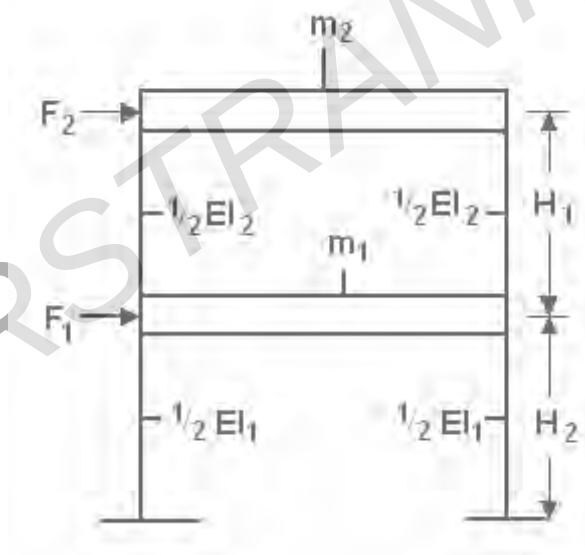

Figure 6
6. Figure below shows an equivalent model for a two storey building. The system consists of two rigid masses m_1 and m_2 supported on elastic columns. Columns as massless beams supported at both the ends. Elastic properties of the columns are as shown in the figure 6, Assume that the building only goes under horizontal motion. Let $m_1 = m_2 = m$, $H_1 = H_2 = H$, $I_1 = I_2 = I$.